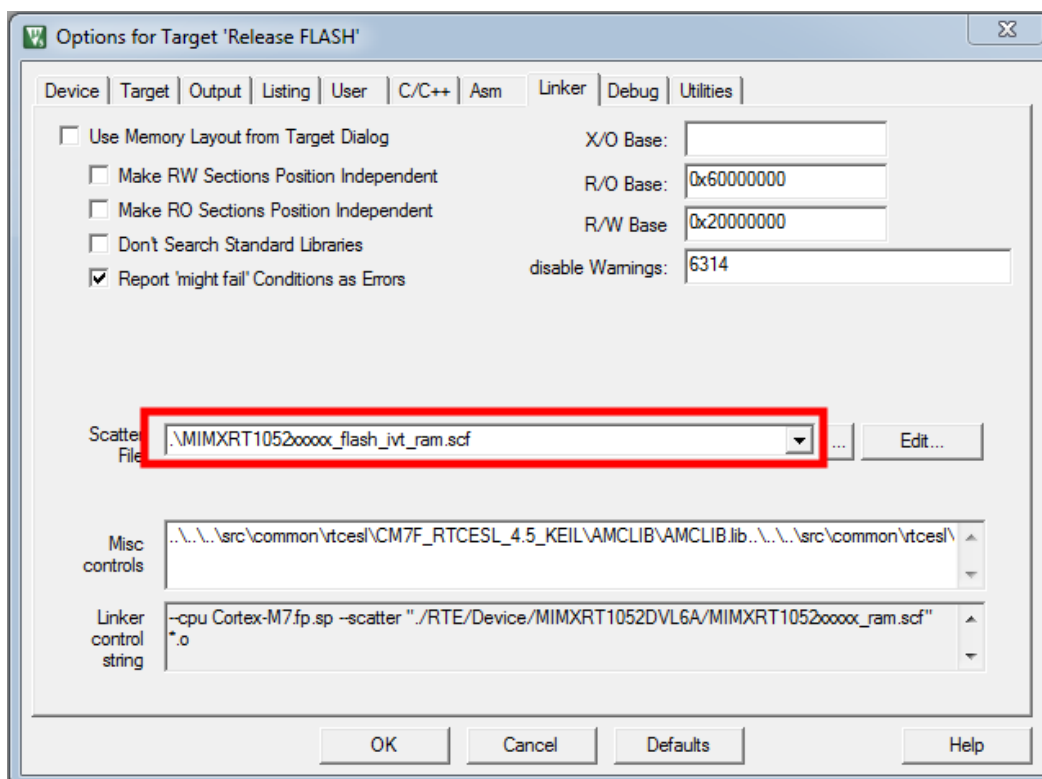

Figure 18. Keil linker settings
- Change the linker file path. Go to the “Project->Options for Target->Linker” tab. Find the “Scatter file” text box. Change its value to “`.\MIMXRT1052xxxxx_flash_ivt_ram.scf`” (see Figure 18).